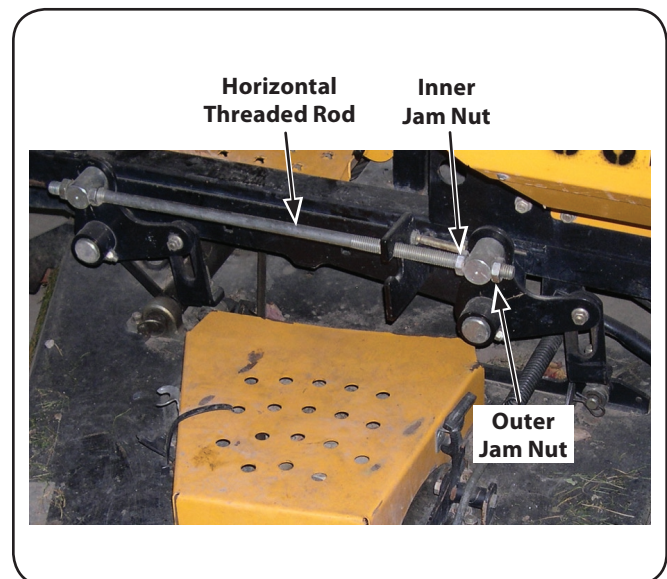

Figure 6-6
2. Loosen the inner jam nuts at the rear left and right of the horizontal threaded rods. See Fig. 6-6.